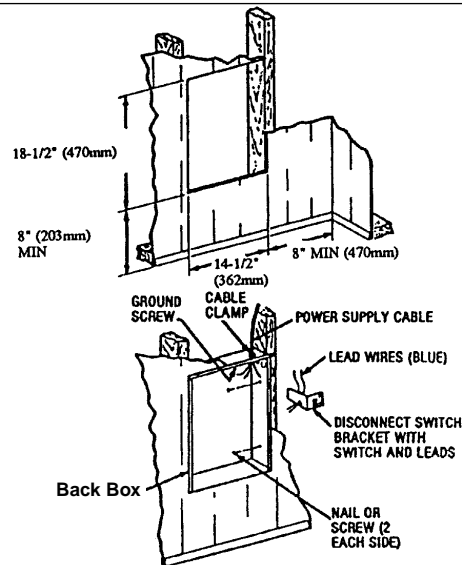

Fig. 2: Locating Recessed Housing in Existing Construction
1. Provide a wall opening 14-1/2" (362mm) wide by 18-1/2" (470mm) high at the desired mounting height, but no closer than 8" (203mm) to floor (See Figure 2).